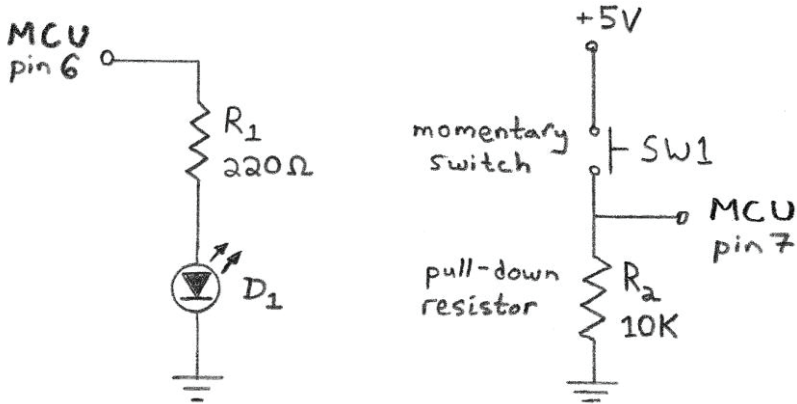

Figure 4-6. LED circuit (left) and momentary switch circuit (right).
- f) Our next activity has two parts to it: an LED circuit (with current-limiting resistor), and a momentary switch circuit. Leave the LED circuit assembled from part (e). Build the momentary switch circuit in Figure 4-6.